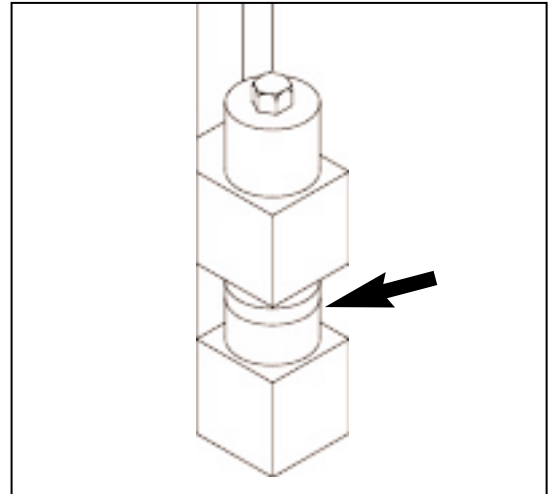

Figure 4.24 2 1/4" [57mm] OF SPACERS.
- e. Store spacers on bottom side of bolt for front bolts and left hand rear bolt. For right hand rear bolt, store spacers on top. Tighten bolts at all 4 corners that secure mold throat plate spacers (see figure 4.24).